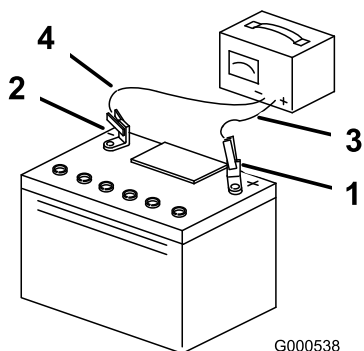

Figure 47
3. When the battery is fully charged, unplug the charger from the electrical outlet, then disconnect the charger leads from the battery posts (Figure 47).